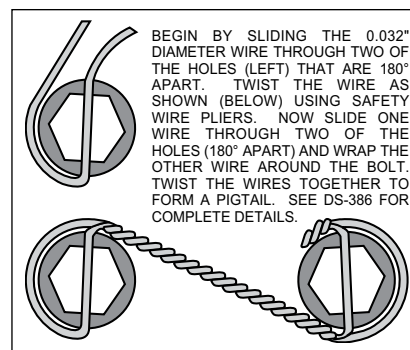

Figure 4. Safety Wire Diagram
- Slide the bracket kit assembly (1) onto the housing flange and then insert the axle assembly through the center hole of the bracket kit assembly (1). Secure using the stock Original Equipment Manufacturer (OEM) bolts and nuts. Stock OEM hex nuts that retain the bracket kit assembly (1) should be on the wheel side of the bracket. Apply red *Loctite*® 271 to the stock OEM bolt threads and torque to OEM specifications. Make sure the bracket kit assembly (1) brake pads are FACING OUTWARD TOWARDS THE WHEEL.
- With the larger I.D. side of the rotor (3) facing away from the hat (2), bolt rotor (3) to hat (2) through the backside of the rotor using washers (4) and bolts (5). Apply red *Loctite*® 271 to the bolt threads and torque bolts to 155 **in-lb.** using a criss-cross pattern. For an added measure of security, the bolts may be safety wired using standard 0.032 inch diameter stainless steel safety wire as shown in Figure 4. Please refer to Wilwood's data sheet DS-386 (available at www.wilwood.com/Pdf/DataSheets/ds386.pdf) for complete safety wire installation instructions.
- Slide the rotor registration adapter (17) onto the axle register on the axle flange with the smaller O.D. facing toward the rotor/hat (2). Align the correct hole pattern in the hat with the stud pattern on the axle flange. **NOTE:** Some OEM and aftermarket axles come with stud sizes larger than 0.50" diameter. Verify stud size and have a qualified machine shop drill the hats to the correct size, if necessary. Slide the hat/rotor assembly (2 and 3) over the wheel studs covering the bracket kit assembly (1) and against the axle flange face. Check to be sure the hat seats squarely against the hub. Install a couple of lug nuts (finger tighten) to keep the rotor/hat assembly in place while continuing with the installation.